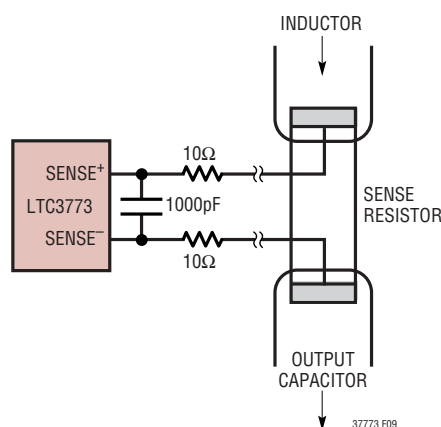

Figure 9. Kelvin Sensing R_{SENSE}
- Are the SENSE⁻ and SENSE⁺ printed circuit traces for each channel routed together with minimum PC trace spacing? The filter capacitors between SENSE⁺ and SENSE⁻ for each channel should be as close as possible to the pins of the IC. Connect the SENSE⁻ and SENSE⁺ pins to the pads of the sense resistor as illustrated in Figure 9.